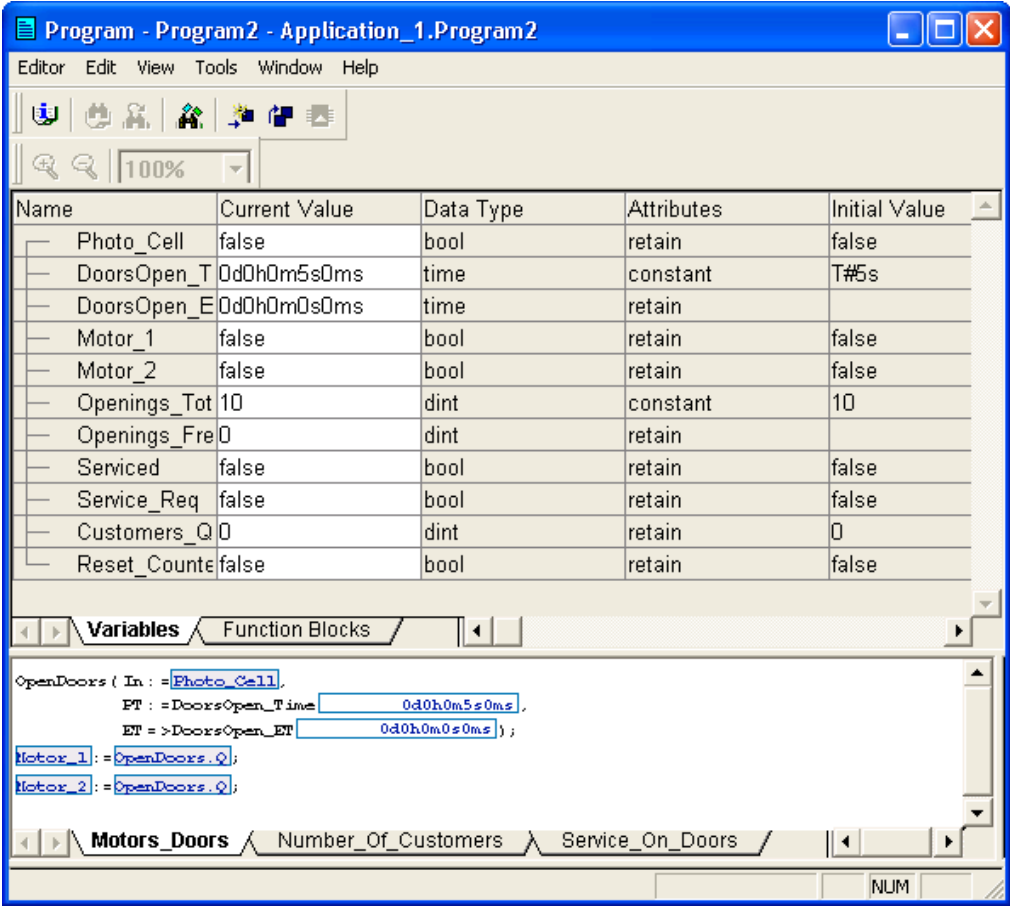

Figure 38. The Program2 editor in Test mode.
6. Select **Motors\_Doors** tab. All variables in **Program2** are listed in the upper pane and the code in the lower pane, see Figure 38.